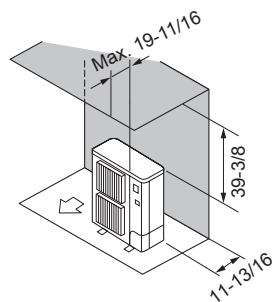

Fig. 2-7
② Obstacles at rear and above (Fig. 2-7)